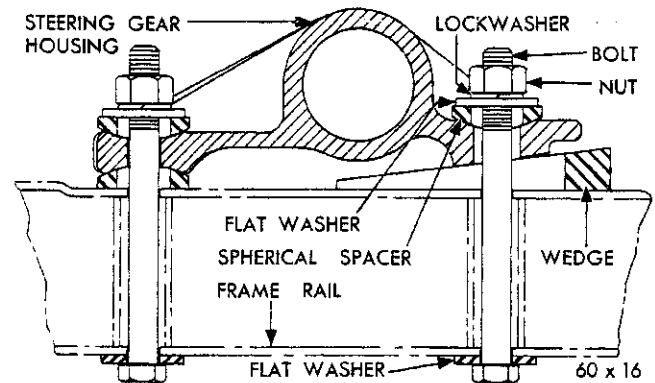

Fig. 52—Steering Gear Mounting
(18) Install the horn blowing actuator, the steering wheel cover and attaching screws.
(19) Tighten the jacket tube to the instrument panel bracket screws. Tighten screws to 50 inch-pounds torque.
(20) Install the steering column lower cover.
(21) Tighten the front upper and the lower gear housing to the frame attaching bolts to 20 foot-pounds torque.
(22) Install a wedge over the rear bolt (Fig. 52) between the housing and the frame so that the tapered surfaces match, wedge lightly into place and tighten the three attaching bolts to 50 foot-pounds torque.
(23) Install the steering gear arm, washer and nut. Tighten to 120 foot-pounds torque.
(24) Install the steering center link, nut and cotter pin.
(25) Connect the pressure and the return hoses.
(26) Install the hydraulic brake line at the master cylinder and brake tee. Bleed the brakes as necessary.
(27) Refill the reservoir. Expel all the air from the system by turning the steering wheel several times to the right and left.
(28) Connect the battery cable at the battery negative post.